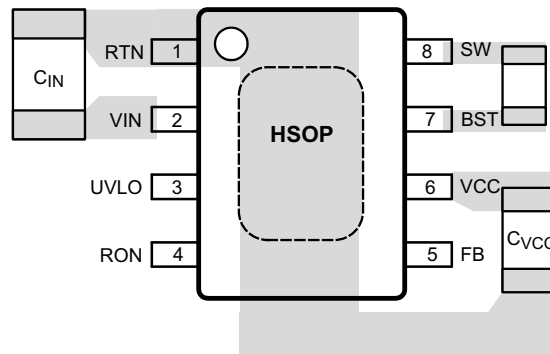

Figure 19. Placement of Bypass Capacitors
1. C_{IN} : The loop consisting of input capacitor (C_{IN}), V_{IN} pin, and RTN pin carries switching currents. Therefore, place the input capacitor close to the IC, directly across V_{IN} and RTN pins, and the connections to these two pins should be direct to minimize the loop area. In general it is not possible to accommodate all of input capacitance near the IC. A good practice is to use a 0.1- μ F or 0.47- μ F capacitor directly across the V_{IN} and RTN pins close to the IC, and the remaining bulk capacitor as close as possible (see Figure 19).
2. C_{VCC} and C_{BST} : The V_{CC} and bootstrap (BST) bypass capacitors supply switching currents to the high and low-side gate drivers. Place these two capacitors as close to the IC as possible, and the connecting trace lengths and loop area should be minimized (see Figure 19).